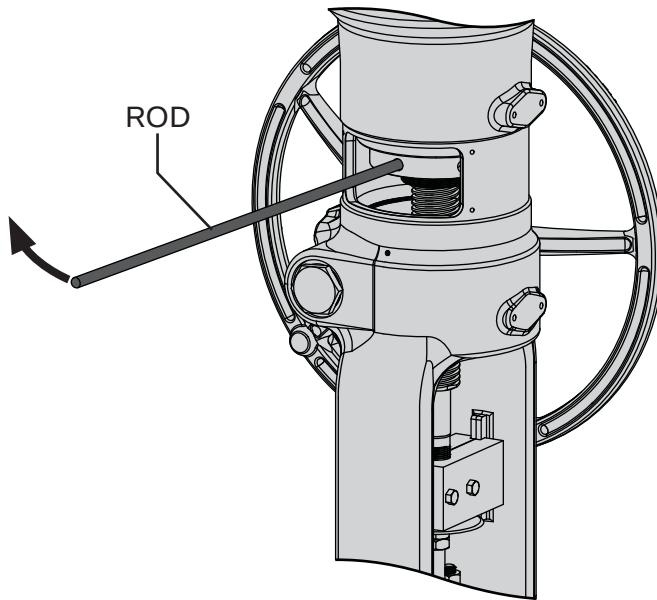

Figure 72 Spring Tension Removal
- 3 Using a 1/2" diameter metal rod, remove all spring tension by turning the spring adjuster (Key 614) clockwise (to the left). Refer to Figure 72.